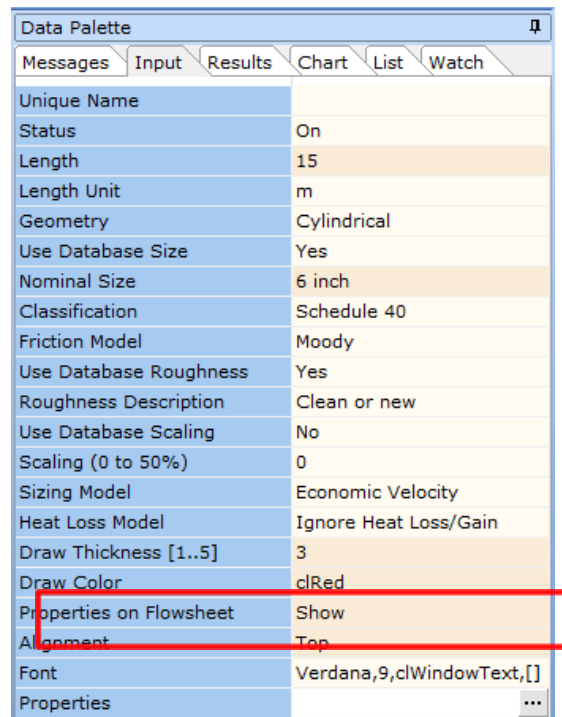

Figure 52: Show Properties on Flowsheet.
54. Now let us show the properties of the pipes. Left mouse-click on the pipe number “-1” and whilst holding the SHIFT key, left mouse-click on the pipe number “-2” and from the *Input Inspector*, change the field titled *Properties on Flowsheet* from *Hide* to *Show* and *Alignment* from *Bottom* to *Top* (Figure 52).